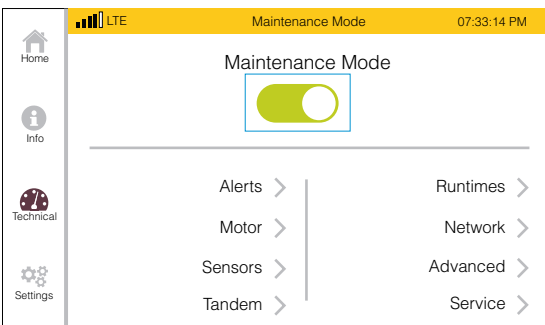

FIGURE 70. ENABLE MAINTENANCE MODE
1. On the control panel LCD display, go to the Technical screen. Press and enable **MAINTENANCE MODE** (FIGURE 70).